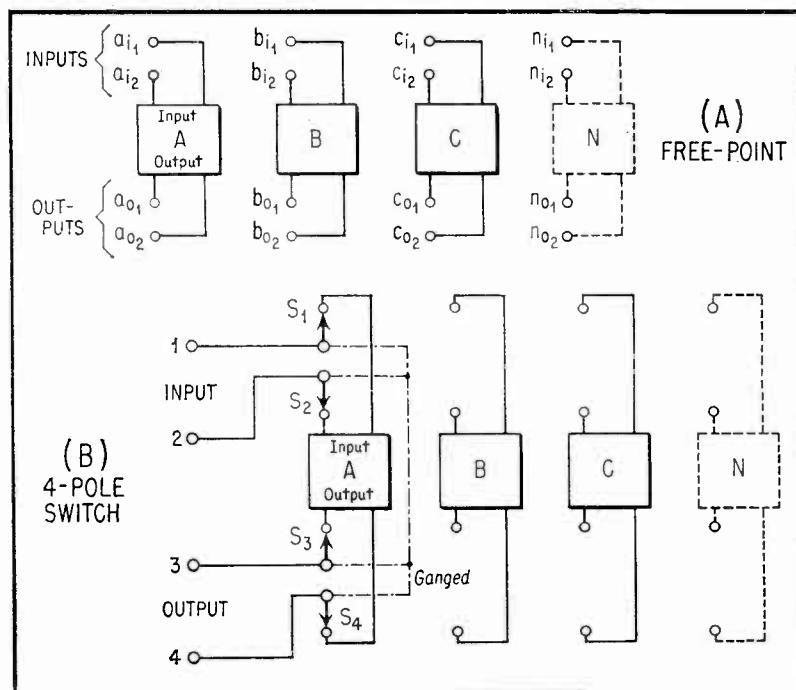

Fig. 3. 4-Terminal Configurations.
Figure 3 shows the principal methods of connecting 4-terminal units in a substitution box. When the input and output terminals must be accessible separately, the free-point circuit of Figure 3(A) is available. The 16 required terminals are arranged in two rows on the panel. (Terminals a_{11} , and A_{12} and a_{02} to n_{01} and n_{02} for the outputs). When internal switching is permissible, the circuit of Figure 3(B) is available. Here, the 4-terminal units (A, B, C . . . N) are selected with a 4-pole switch ($S_1S_2S_3S_4$). Only four panel terminals (1 and 2 for the input; 3 and 4 for the output) are needed.
Sometimes, one input terminal (or one output terminal) of each component can be grounded. This is not true often enough, however, to justify running a common line inside the substitution box and eliminating one row of terminals in Figure 3(A) or one switch pole in Figure 3(B). Similarly, it is possible in some applications to ground one input terminal and one output terminal of a 4-terminal device such as a transformer. But it is not advisable to make permanent common connections inside a substitution box containing 4-terminal components, since this will greatly limit the flexibility of the unit. The arrangements shown in Figure 3 therefore are the simplest for this type of box.